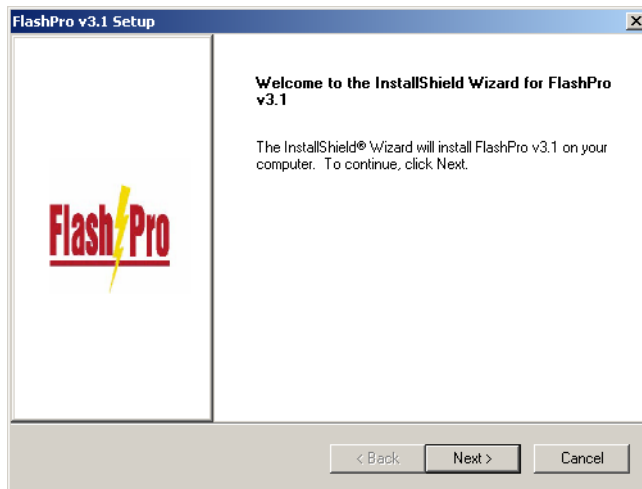

Figure 1-1. FlashPro Installation Wizard
1. **Insert the FlashPro CD into your drive.** The installation wizard starts, as shown in Figure 1-1.